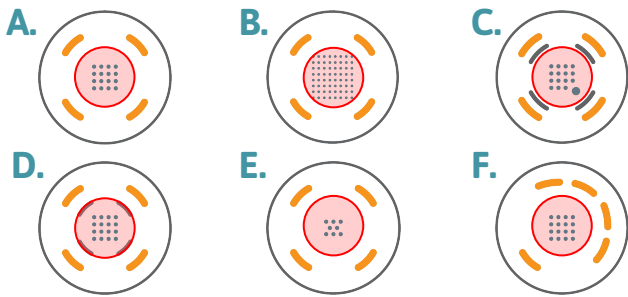

Figure 1: Drop Placement Diagram
8. Place a 5 μ l droplet of SH-SY5Y Neuroblastoma cell suspension over the recording electrode area of each well of the MEA. See Figure 1 on page 2 for appropriate drop placement.